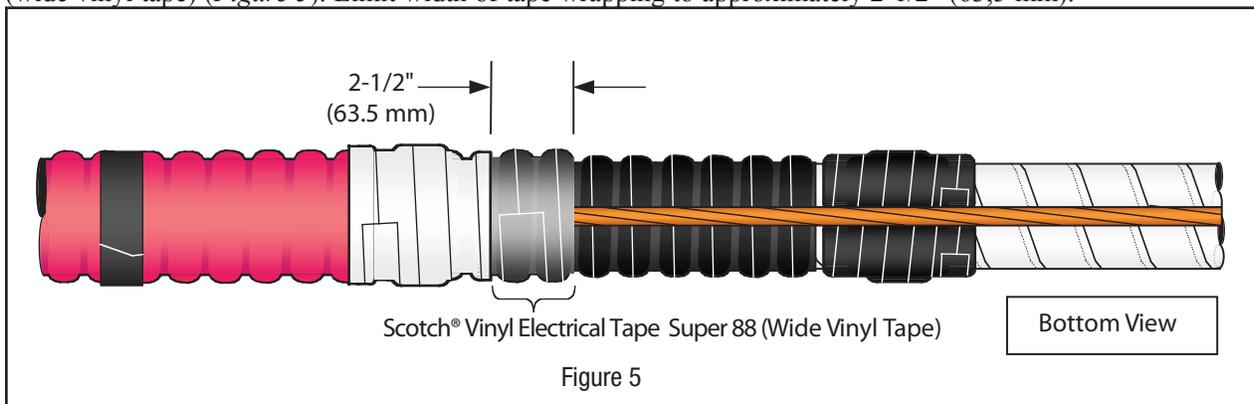

Figure 5
- 2.8 Bind cable ground wire with four half-lapped layers of Scotch® Vinyl Electrical Tape Super 88 (wide vinyl tape) (*Figure 5*). Limit width of tape wrapping to approximately 2-1/2" (63,5 mm).